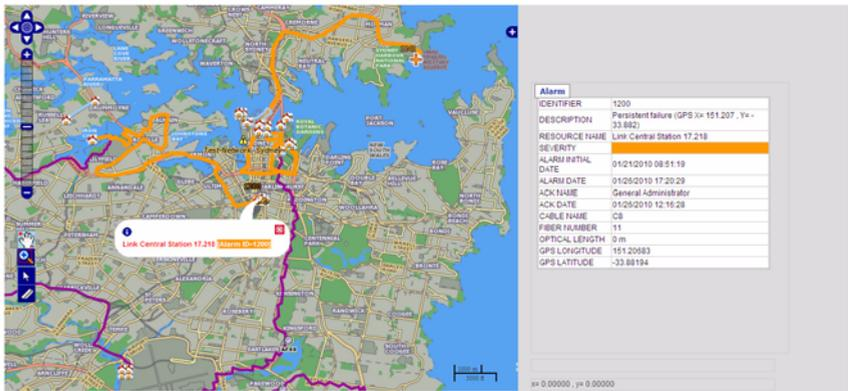

Fig. 180 Alarm Report for an OTDR link - Part 4
- the link **Geographical Localization**, on the line Map, allows to reach the display of the alarm localization, at the bottom of the report page (option) (see Figure 180).